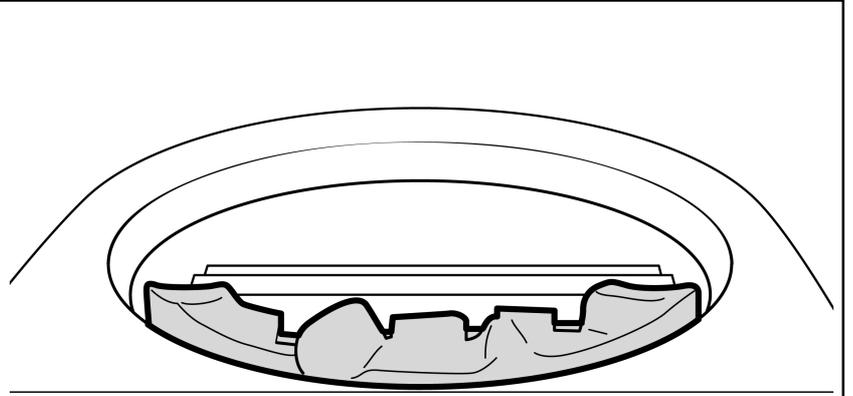

Figure 30 Front base pebble location
1. The front base pebble has the letters 'MF' on the underside. Locate the front base pebble in front of the burner (See figure 30)